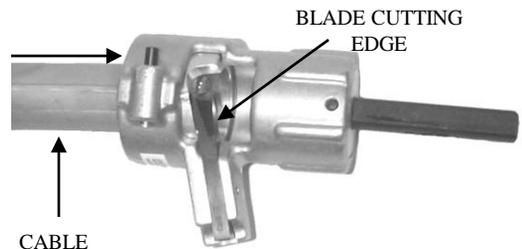

Fig. 4
**Step 4.** (Fig. 4) To strip the insulation, insert the cable into the WS6-M until it comes in contact with cutting edge of the blade. Always check the blade position with respect to the conductor, before stripping the insulation.